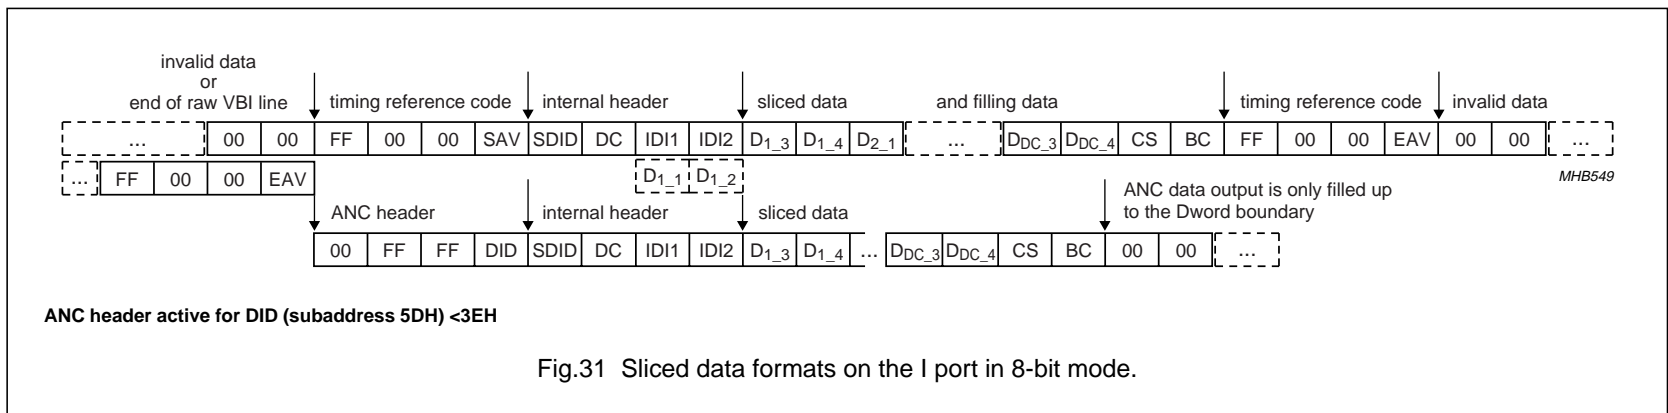

Fig.31 Sliced data formats on the I port in 8-bit mode.
**Table 20** Explanation to Fig.31